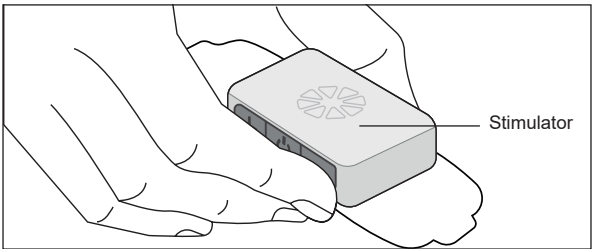

Figure 8-3: Grasp the edges of the External Stimulator attached to the Gel electrode.
3. Using the index finger and thumb, grasp the edges of the External Stimulator attached to the Gel Electrode, so the gel pads face downward. **See Figure 8-3.**